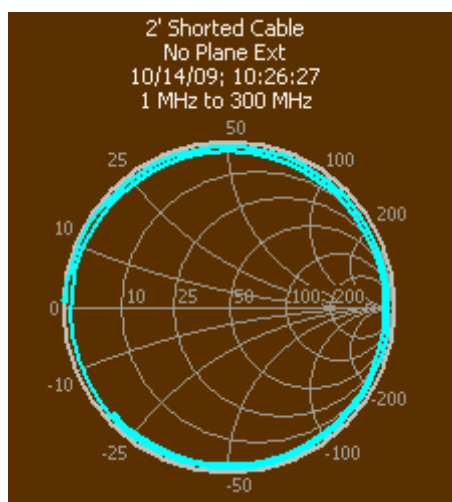

Figure 3—Cable S11 without plane extension
The short at the end of the coax graphs on the Smith chart as a reflection with magnitude near 1 (not quite 1, due to losses), which starts near 180 degree at low frequency and rotates around and around as we increase frequency, as shown in Figure 3. To get this to look like the short that is at the end of the cable, we have to get rid of all the rotation, and end up with a dot near the zero point at the left of the Smith chart.
Figure 6 shows that plane extension leaves a possible error of a couple of degrees, and magnitude error of almost 0.5 dB. The error is greatest at the higher frequencies. It can be reduced by shortening the cable length. The error results primarily from (1) losses in the coax and (2) the fact that the coax characteristic impedance is likely not exactly the assumed 50 ohms. If plane extension is used with long connections, it is bound to create some error. Note that the error shown in Figure 3, if translated into impedance error, is significant if you are measuring near the edge of the Smith chart (i.e. S11 values near 0 dB, meaning very high or very low impedances), but not especially significant near the center of the chart (meaning impedances near 50 ohms).